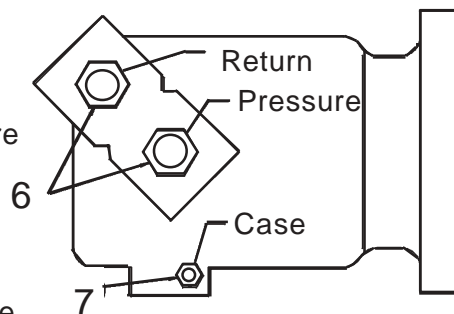

Figure 15
1. Attach straight adapter (2) to case drain port. Then fasten hose (8) to elbow (1) and attach to straight adapter (2) --- LEAVE LOOSE. Hose must be connected at Angles shown to clear. (See Figure 15)
2. Attach hoses (3 & 4) on boom end and tighten. (See Figure 15 Boom Side View)
3. Tighten the fittings on the bottom hose (8).